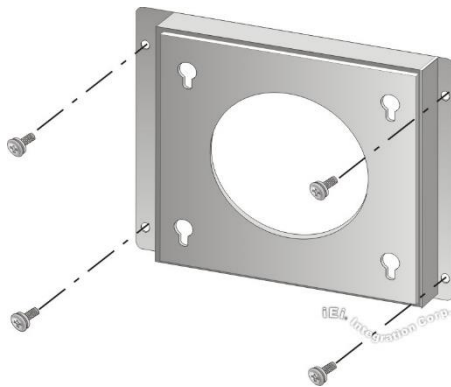

Figure 3-13: Wall-mounting Bracket
- Step 5:** Secure the mounting bracket to the wall by inserting the retention screws into the four pilot holes and tightening them (**Figure 3-13**).